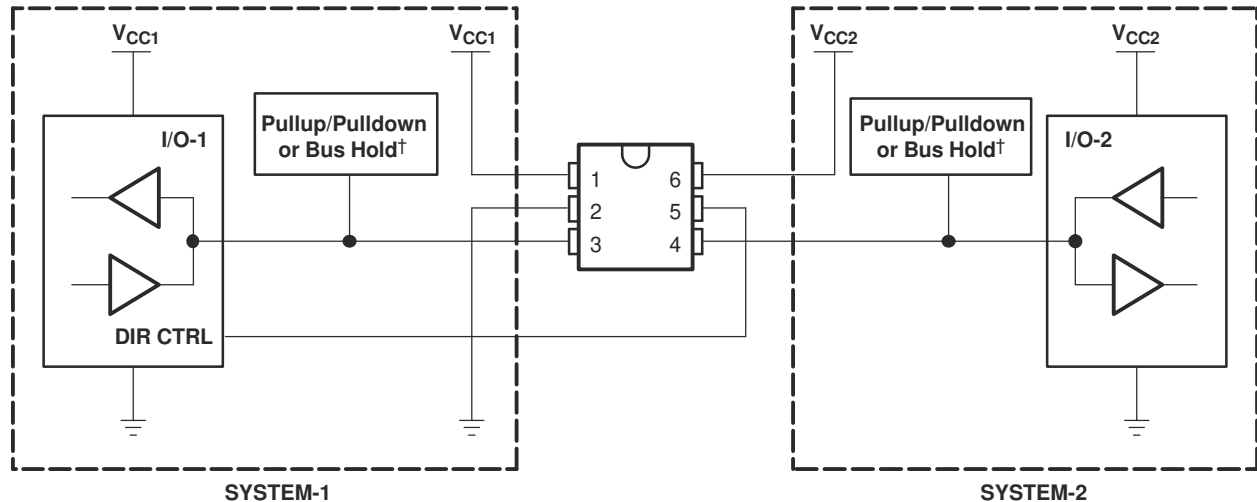

图 8-3. Bidirectional Logic Level-Shifting Application
图 8-3 shows the SN74AVC1T45 being used in a bidirectional logic level-shifting application. Because the SN74AVC1T45 does not have an output-enable (OE) pin, the system designer should take precautions to avoid bus contention between SYSTEM-1 and SYSTEM-2 when changing directions.